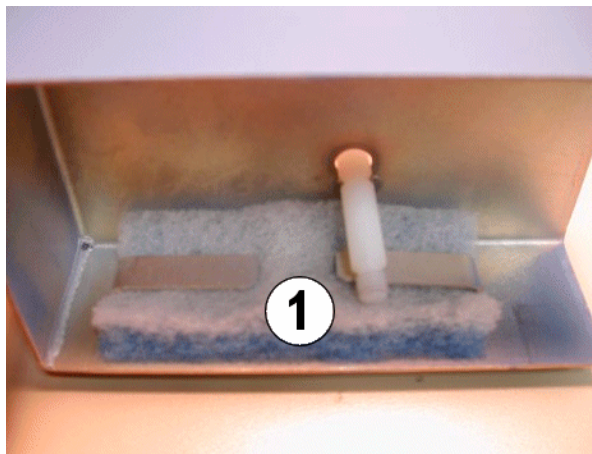

Figure 4 Ambient-air filter
3. Remove the ambient-air filter (Figure 4/1) from the tabs on the protective cover.
4. Slide new or cleaned ambient-air filter under the tabs on the protective cover, making sure the fitting position is correct, see Figure 4/1.